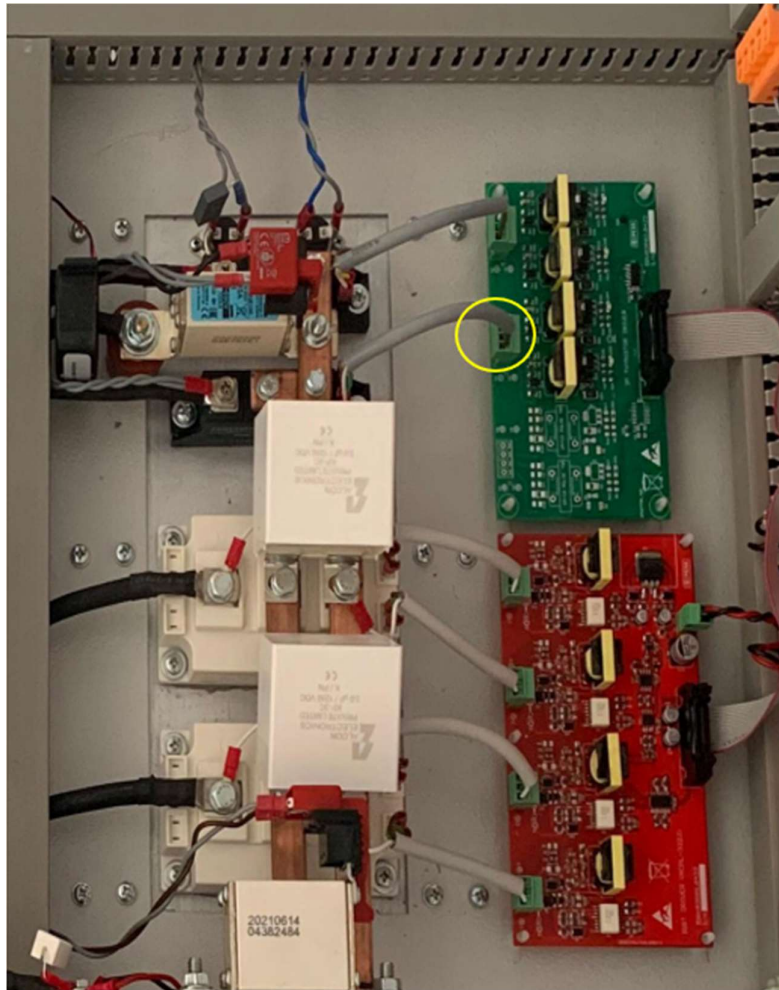

Figure 12. Disconnecting inverter out thyristor to understand true synchronization
8. If you get synchronization, it means your connections are true, turn off inverter from TFT panel, see load on inverter led appears, check inverter voltage from monitor menu as zero volt, now you can connect Figure 12 thyristor driver cable to the driver port. And turn on inverter from TFT panel and see the transfer is ok.